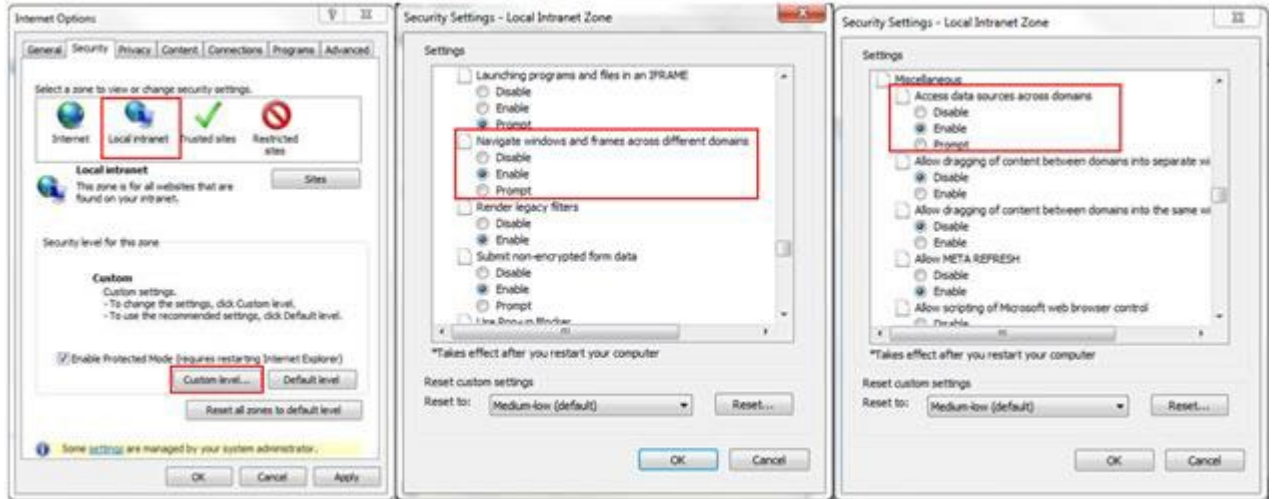

Figure 3-49 Internet Settings
- *Enable the cross-domain browse window and frame and access data sources through domains on the Security page in Internet Options in IE Explorer, as shown in Figure 3-49.*